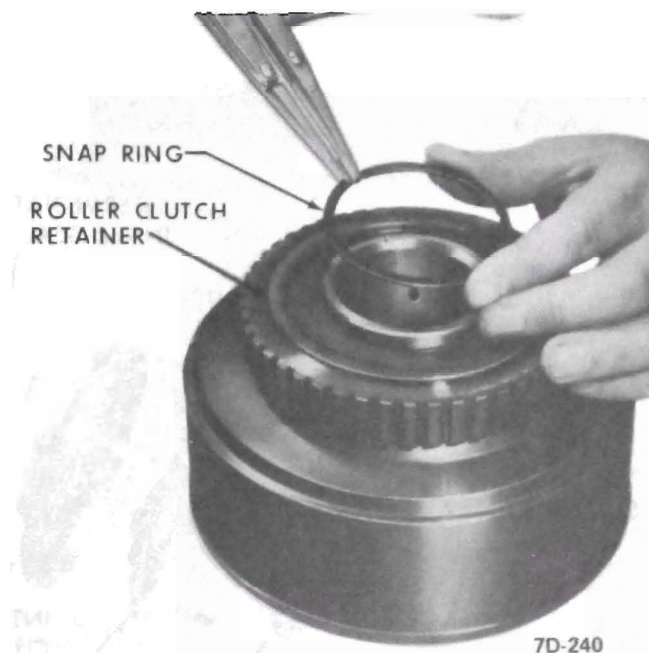

Figure 7D-165
17. Place direct clutch assembly over center support and air check operation of direct clutch. See Figure 7D-166.